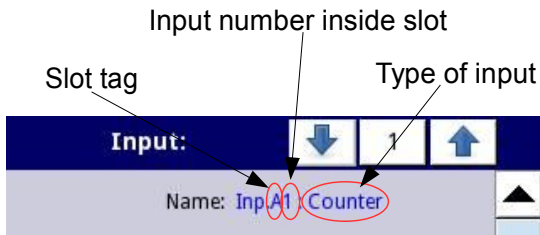

Fig. 7.74. Description of **Name** parameter in **Built-in inputs** menu
Common parameter for all **Built-in inputs** is **Name** – each inputs has its own unique name and it can not be changed – description of this parameter see **Fig. 7.74**.
- **Name** - each built-in input already has a name given by the device and user cannot change it, description of the **Name** parameter see **Fig. 7.74**,
- **Name** – each built-in input already has a name given by the device and user cannot change it, for description of **Name** parameter see **Fig. 7.74**,
- **Name** – each built-in input already has a name given by the device and user cannot change it, for description of **Name** parameter see **Fig. 7.74**.